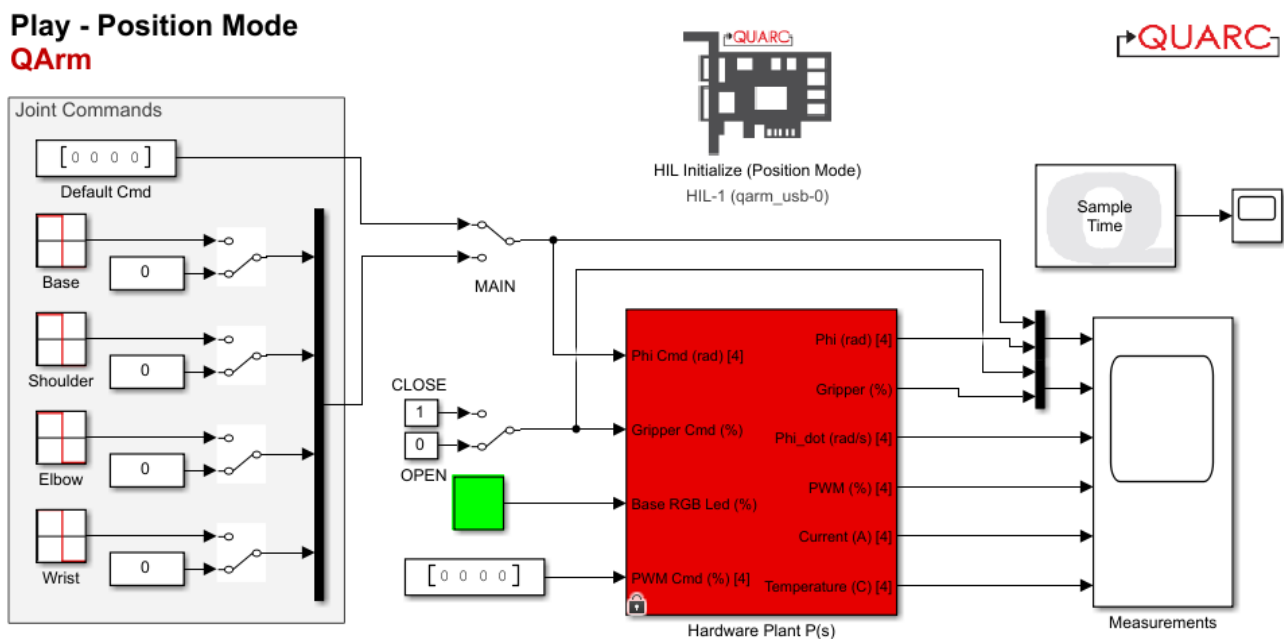

Figure 1: Simulink model that controls the QArm in position mode
1. Open the Simulink model play_position_mode.slx (Figure 1). You will use the model to apply position commands to the base, shoulder, elbow, and wrist joints, in addition to controlling the gripper. The model also acquires and displays a variety of sensor feedback.